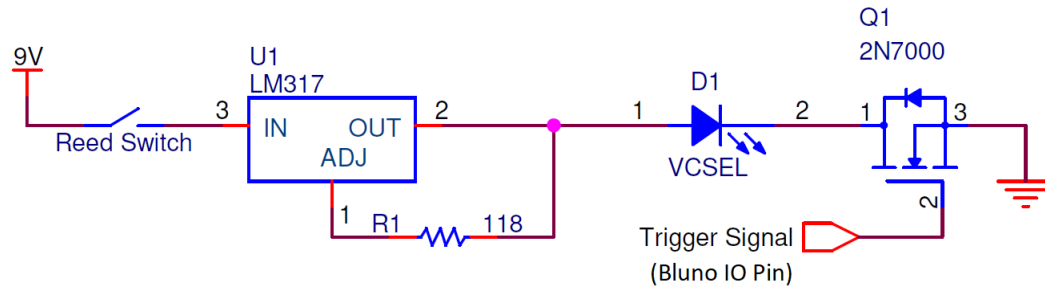

Figure 4. Laser Control Circuit Including Safety Interlock Reed Switch
1. The laser control subsystem (Figure 4) is composed of the laser (OPV332, TT Electronics), current source (LM317 voltage regulator and 118-ohm ½-watt resistor), reed switch safety interlock (MS-210-3-1-0300, PIC GmbH), and transistor interface to the microcontroller (2N7000).